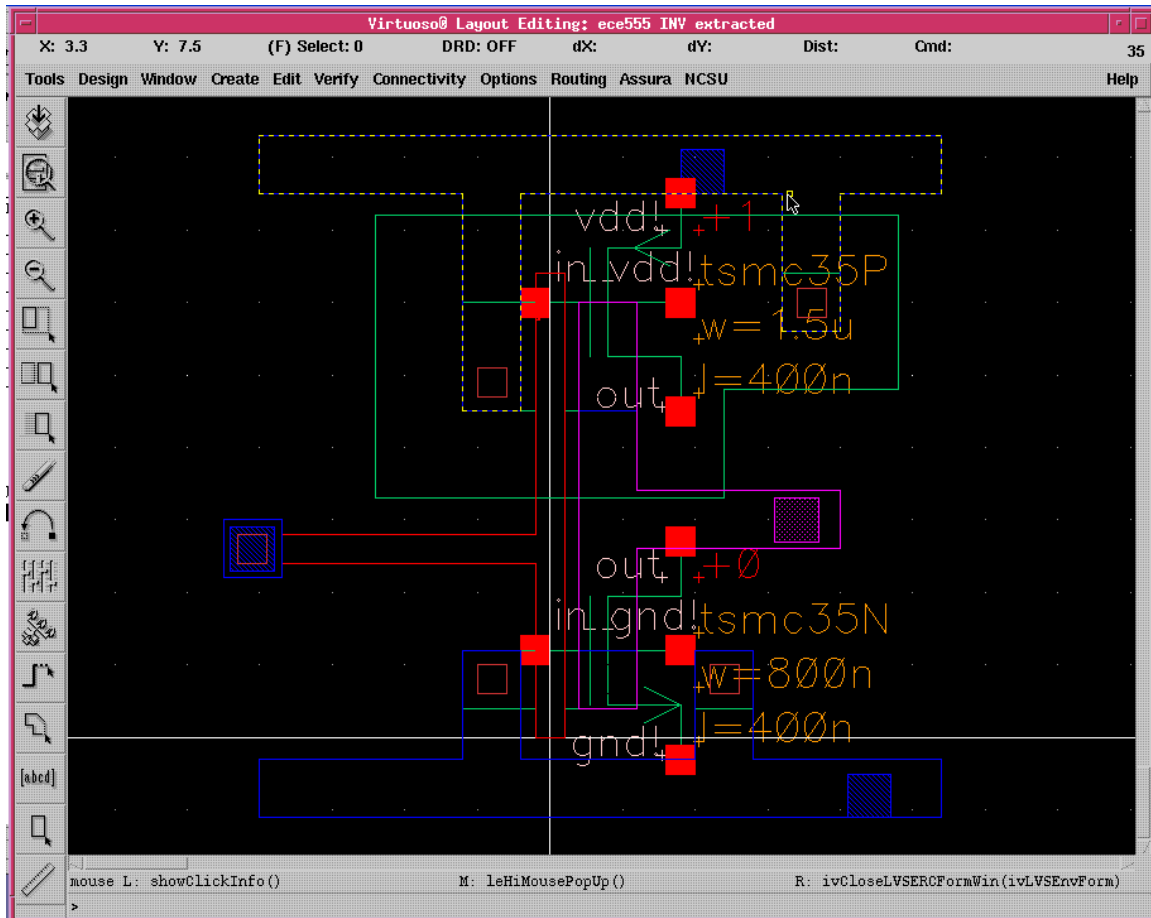

Fig. 25. Extracted view of the inverter
- To find your extracted view of inverter, go to library manager and select extracted view. Your extracted view should be like Fig. 25. You can see two transistors and a parasitic capacitor which could affect the performance of your inverter.